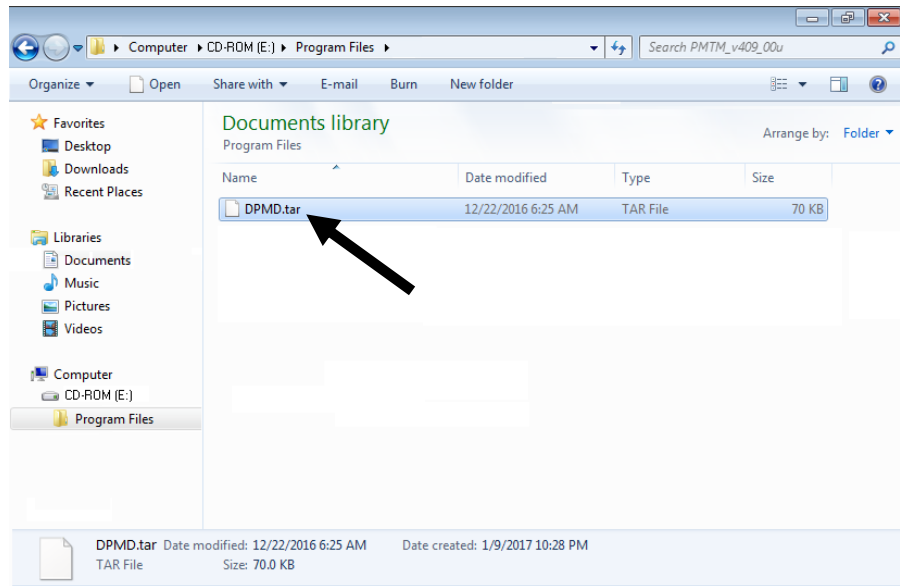

Figure 2-4. Select User Program File
6. Click **Browse** in the Download User Program File frame. The Select User Program File screen displays (see *Figure 2-4*).
7. Select the path and user program file to download from the CD-ROM. (Program files are typically located in the Program Files folder on the CD-ROM.) As *Figure 2-4* shows, the screen lists all valid user program files with the .TAR extension: